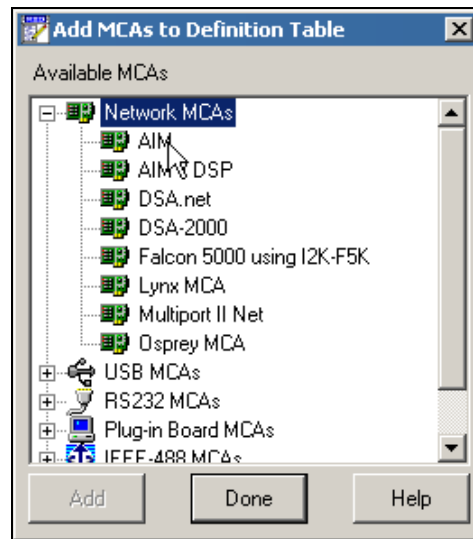

Figure 5 The Add MCA Dialog
3. Select **AIM** from the list of available MCAs by clicking on the ‘+’ symbol next to Network MCAs (Figure 5).